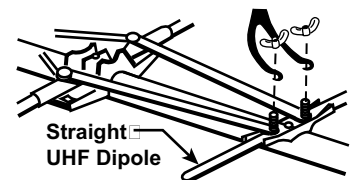

Fig. 7
6. Fasten antenna to mast using U-bolt assembly as shown in Figs. 7 & 8.